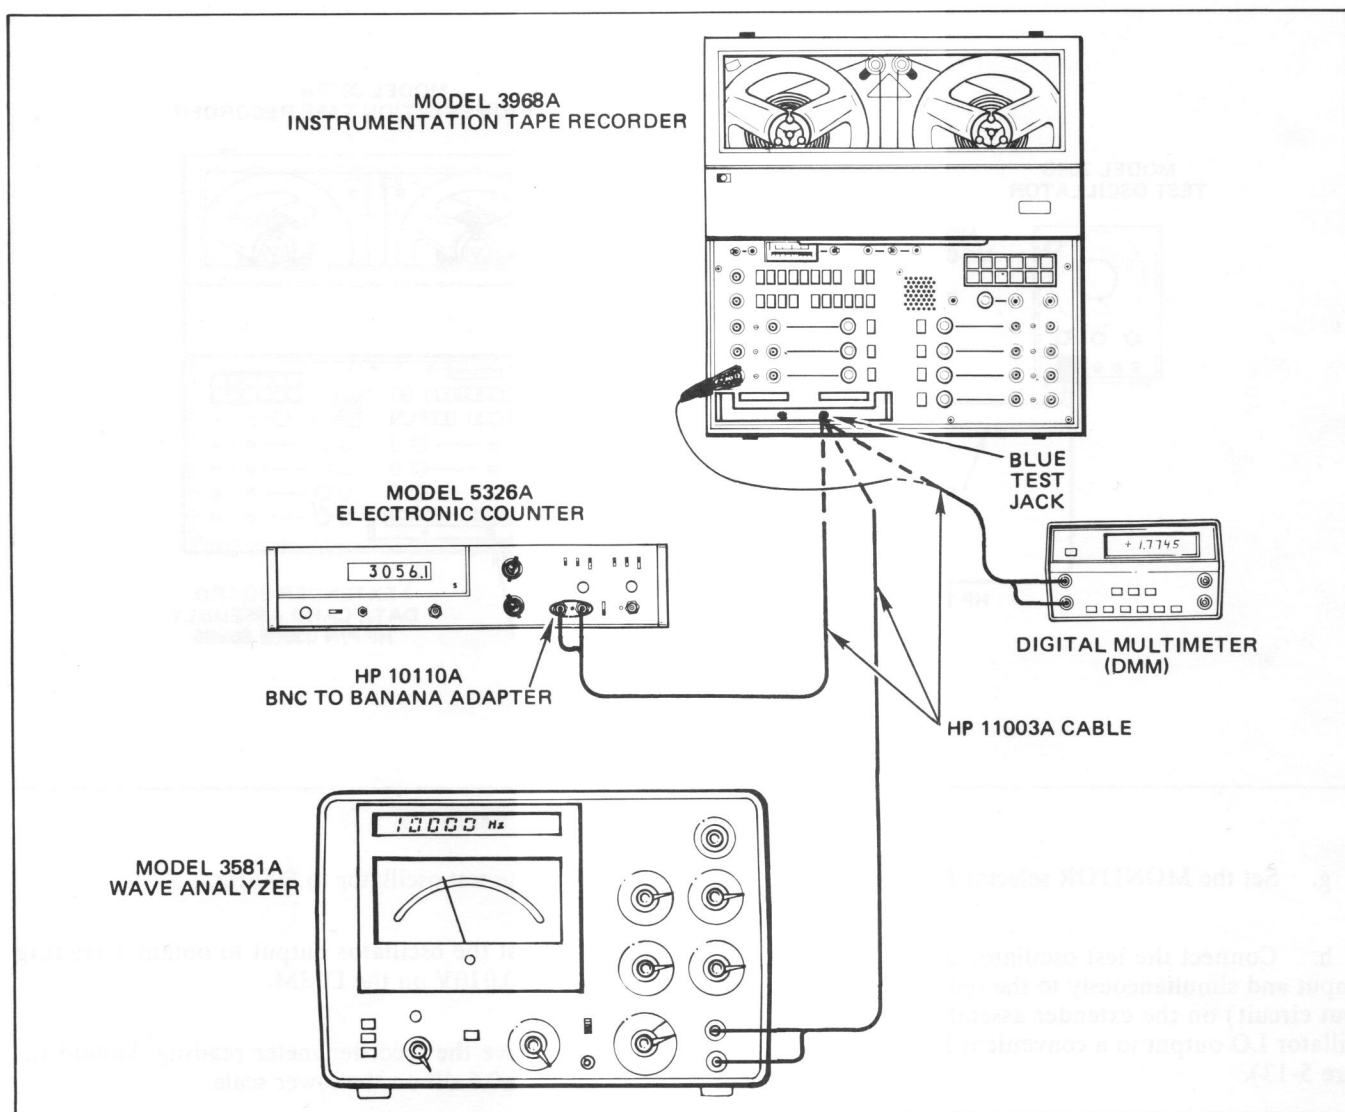

Figure 5-14. Calibrator Accuracy Test Setup
- p. Connect the HI input of the counter to the blue test jack (calibrator output circuit) on the extender assembly. Connect the counter's LO input to a convenient BNC shell (see Figure 5-14).
- s. Disconnect the counter and connect the wave analyzer (see Figure 5-14).